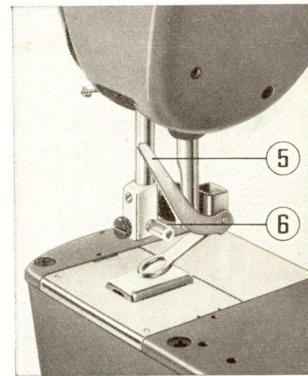

Fig. 12
The **darning foot** is the only exception, as it is brought into position from the rear, when the needle bar is in its lowest position. Take care that the lever (5) of the darning foot remains behind the stud (6) of the needle clamp (Fig. 12).